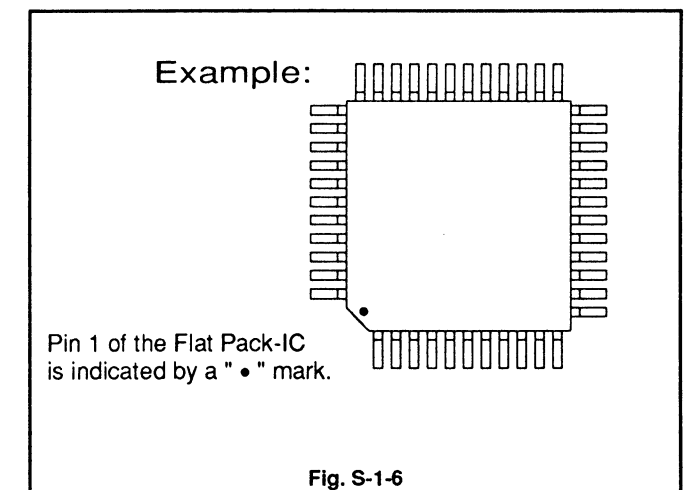
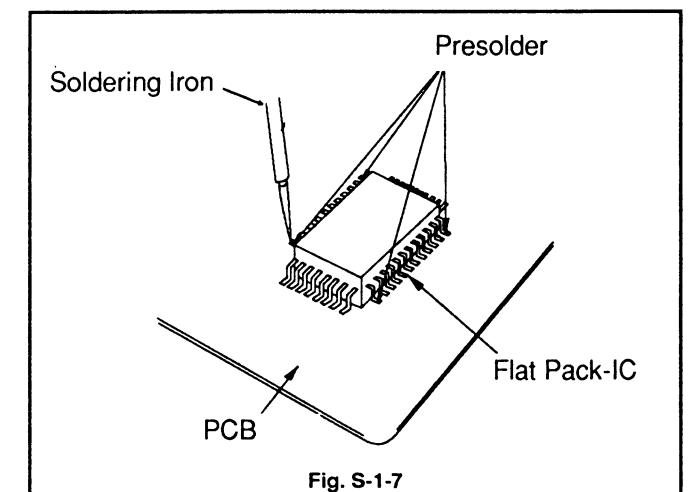

Fig. S-1-6
Fig. S-1-7
- (1) Using desoldering braid, remove the solder from the foil of each pin of the flat pack-IC on the PCB so you can install a replacement flat pack-IC more easily.
- (2) The "•" mark on the flat pack-IC indicates pin 1. (See Fig. S-1-6.) Be sure this mark matches the 1 on the PCB when positioning for installation. Then pre-solder the four corners of the flat pack-IC. (See Fig. S-1-7.)
- (3) Solder all pins of the flat pack-IC. Be sure that none of the pins have solder bridges.